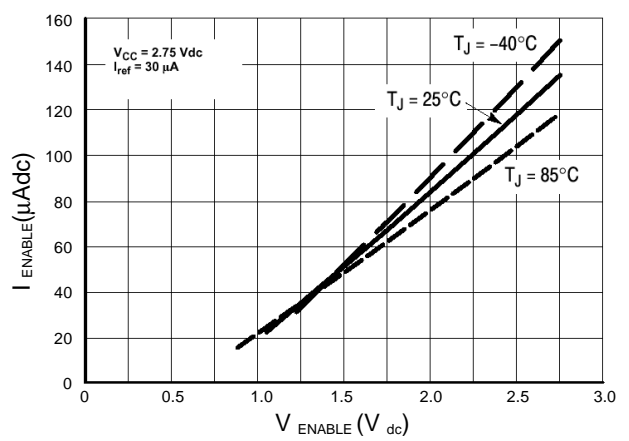

Figure 5.  $I_{enable}$  versus  $V_{enable}$
- Step 2: Insure that Min VENBL is . minimum indicated in Figures 5 and 6.
- Step 2: Insure that Min  $V_{ENBL}$  is  $\geq$  minimum indicated in Figures 5 and 6.